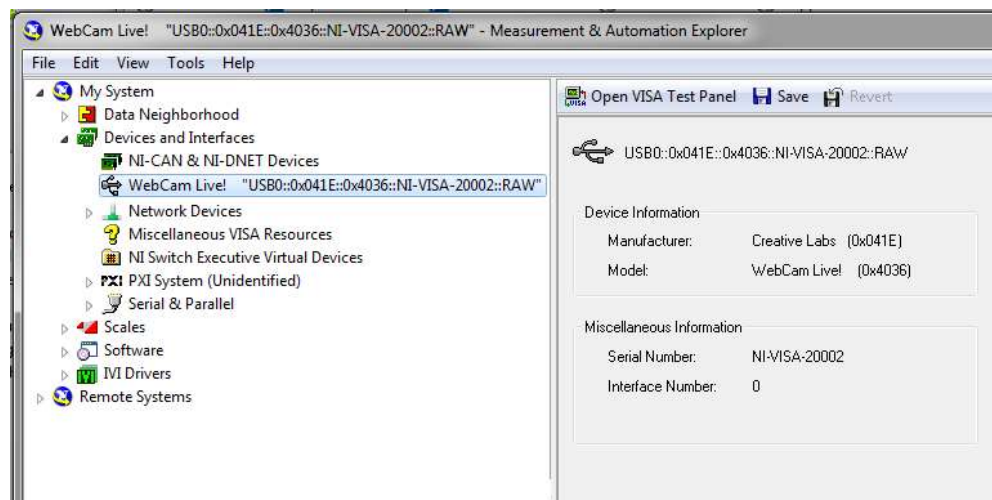

Figure 9. USB Device Shown in MAX
1. Open Measurement & Automation Explorer (MAX). Select **Tools»Refresh** to refresh the view to ensure your device appears. Your USB device should be listed under **Devices and Interfaces** as shown in Figure 9. Your USB device is now installed and configured to use NI-VISA.
According to the USBTMC specification, all USBTMC devices must have a serial number. Some USB RAW devices may not have serial numbers. If your device does not have a serial number, NI-VISA automatically assigns a VISA specific serial number for that device, as shown above in Figure 9. The format for the serial number is NI-VISA-#, where # is an automatically generated number.